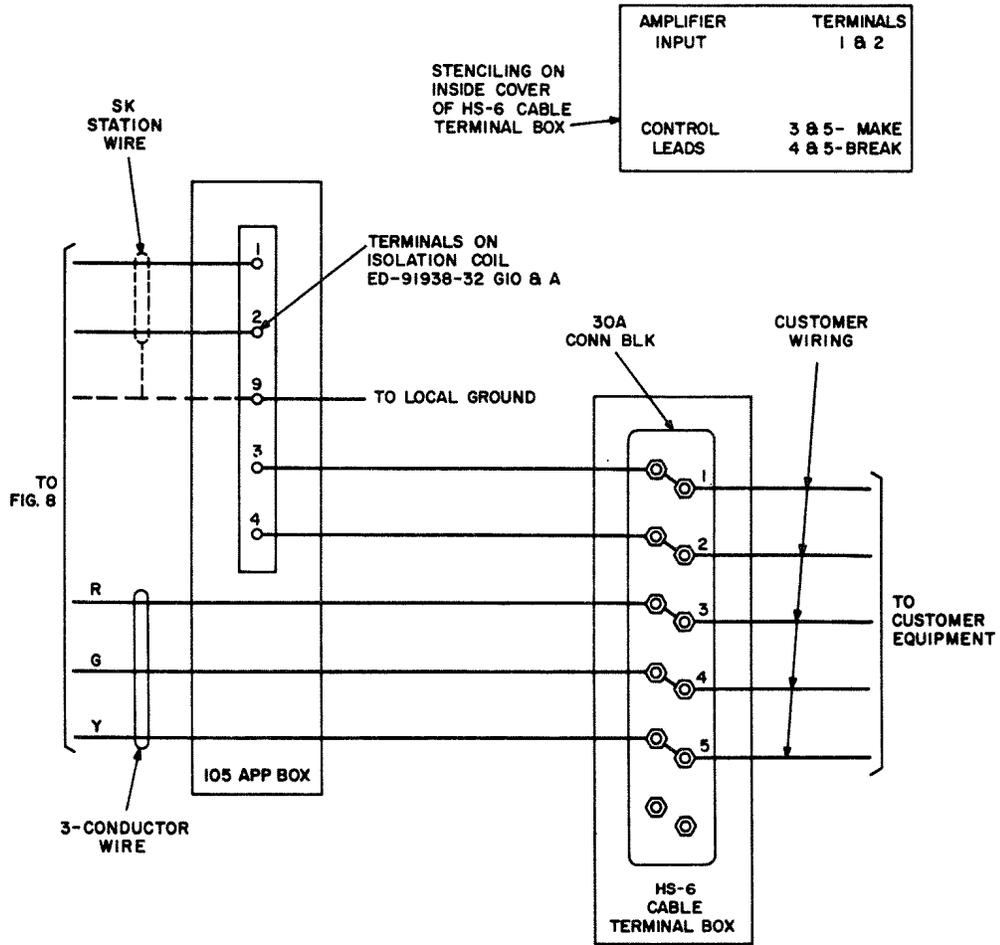

Fig. 9 — Connections — Isolation Coil and Connecting Block
1.02 This section is reissued to furnish ordering information, correct listing of isolation coil in Fig. 9, and expand the identification of the three individual components.
2.06 In addition to the equipment listed above an ED-91938-32 G10 & A isolation coil, 105 APP. box, and an HS-6 cable terminal box are needed for complete installation. (See Fig. 9.) ↘
**3.04** The 105 apparatus box housing the isolation coil and the HS-6 cable terminal box housing the 30A connecting block (Fig. 9) should be mounted near the customer equipment or where specified by local requirements and instructions.
4.02 Fig. 9 shows the termination of the SK station wire on the isolation coil (ED-91938-32 G10 & A or equivalent) housed in a 105 apparatus box. Also shown are the termina-
4.03 Fig. 9 shows suggested stenciling for the 30A connecting block and inside the cover of the HS-6 cable terminal box. This will assist the customer in making connections to the output and control leads.
4.04 Place straps between the terminals of the 30A connecting block as shown in Fig. 9 so the customer may make connections to the terminals on the right side of the connecting block. This will enable the customer to make terminations without crossing over or disturbing telephone company connections.
6.01 *The connection of customer owned equipment to the connecting block (Fig. 9) is the sole responsibility of the customer and shall not be attempted by Telephone Company personnel.*